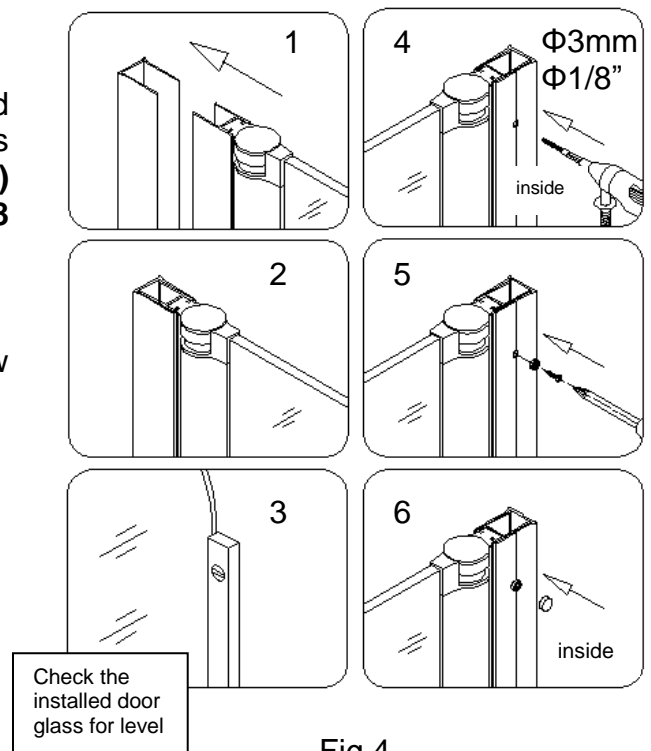

Fig 4
4. Slide the assembled **Glass door with Hinged glass profile (02)** into the groove of the **Wall profile (01)** and level it vertically (Fig 4.3). Make final adjustment (up to 1/2") if required keeping the door glass level. Drill the holes through the first layer of the **Wall profile (01)** and into the **Hinged glass profile** using an **Φ1/8 drill bit**. Secure the **Wall profile** and the **Hinged Glass profile** with the **Round head screws ST4.2x16 (05)** and washers. Cover the screw heads with the **Decorative Covers (06)**. See Fig 4